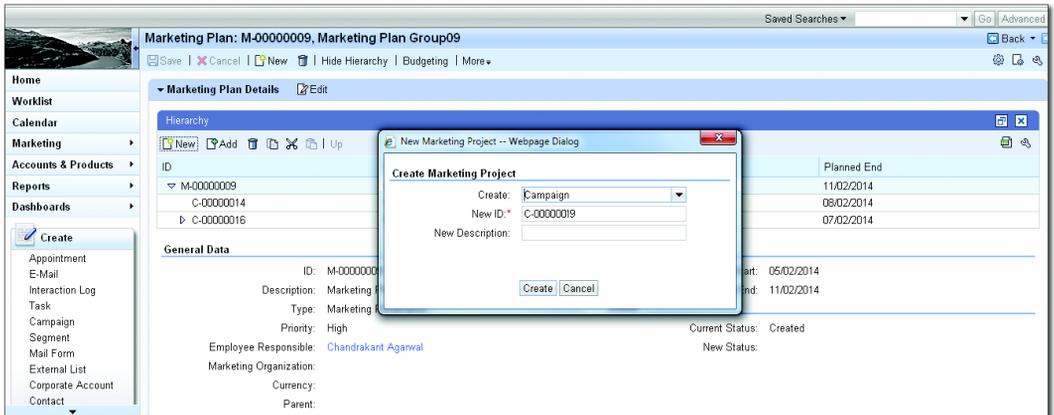

Figure 5.3 Linking a Marketing Plan to a Campaign
3. Similarly, create a campaign as shown in Figure 5.3, and link it to the marketing plan M-00000009.